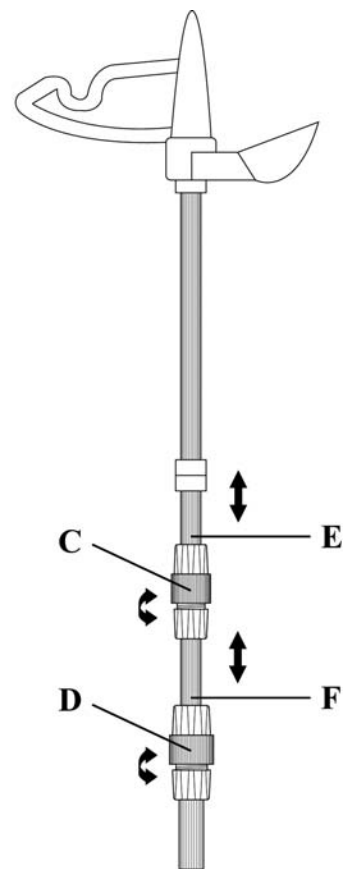

FIGURE 3
3. Loosen top ridged knob (FIGURE 3-C) by turning it in a counter-clockwise direction. Pull top section of Telescopic Pole (FIGURE 3-E) upwards to extend it to full height. Re-tighten top ridged knob.
4. Loosen bottom ridged knob (FIGURE 3-D) by turning it in a counter-clockwise direction. Pull middle section of Telescopic Pole (FIGURE 3-F) upwards to extend it to full height. Re-tighten bottom ridged knob.